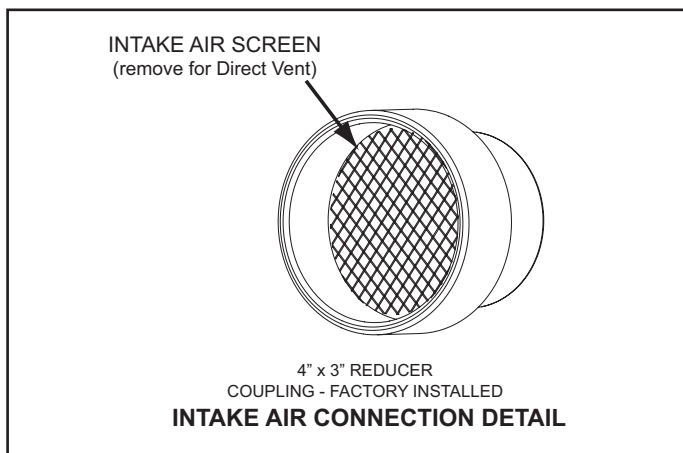

Figure 17
13. Ensure the Intake Air Screen on the Intake Air Connection is removed before connecting the intake air pipe to the water heater, see Figure 17.